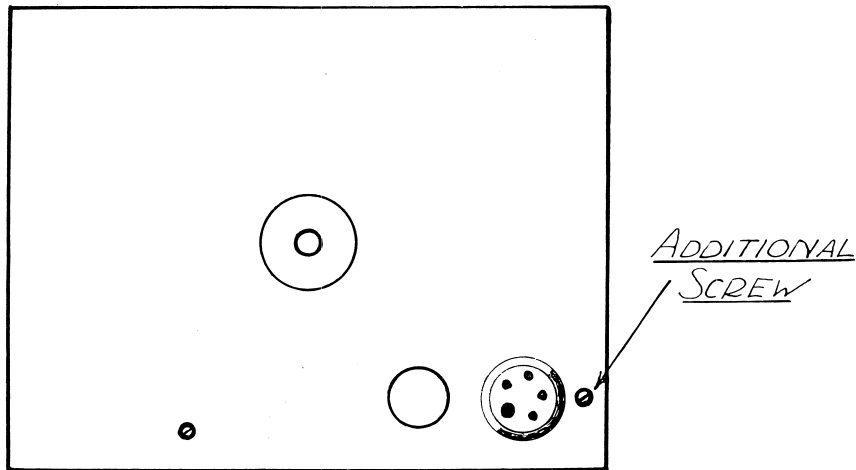

FIG. 3
4. An additional Parker Kalon drive screw is necessary. This will be fitted in the back of the can between the speaker socket and the side of the can as shown in Fig. 3.